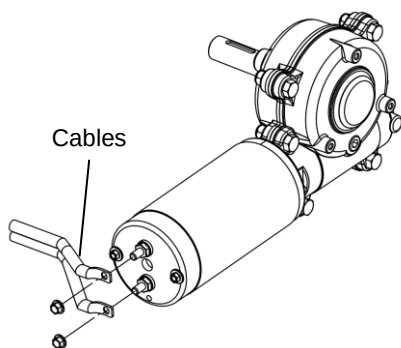

Figure 12
11. **Figure 12.** Reconnect the two cables to the motor terminals.